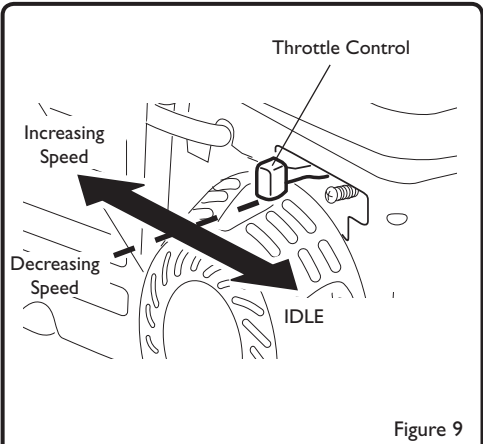

Figure 9
2. Move the throttle control rearward to increase engine speed, or forward to decrease engine speed. (See Figure 9)
11. When the engine is running, move the throttle control lever forward (SLOW Position) to decrease speed or backwards (FAST position) to increase speed. During normal use keep the throttle in the FAST position. (See Figure 9)